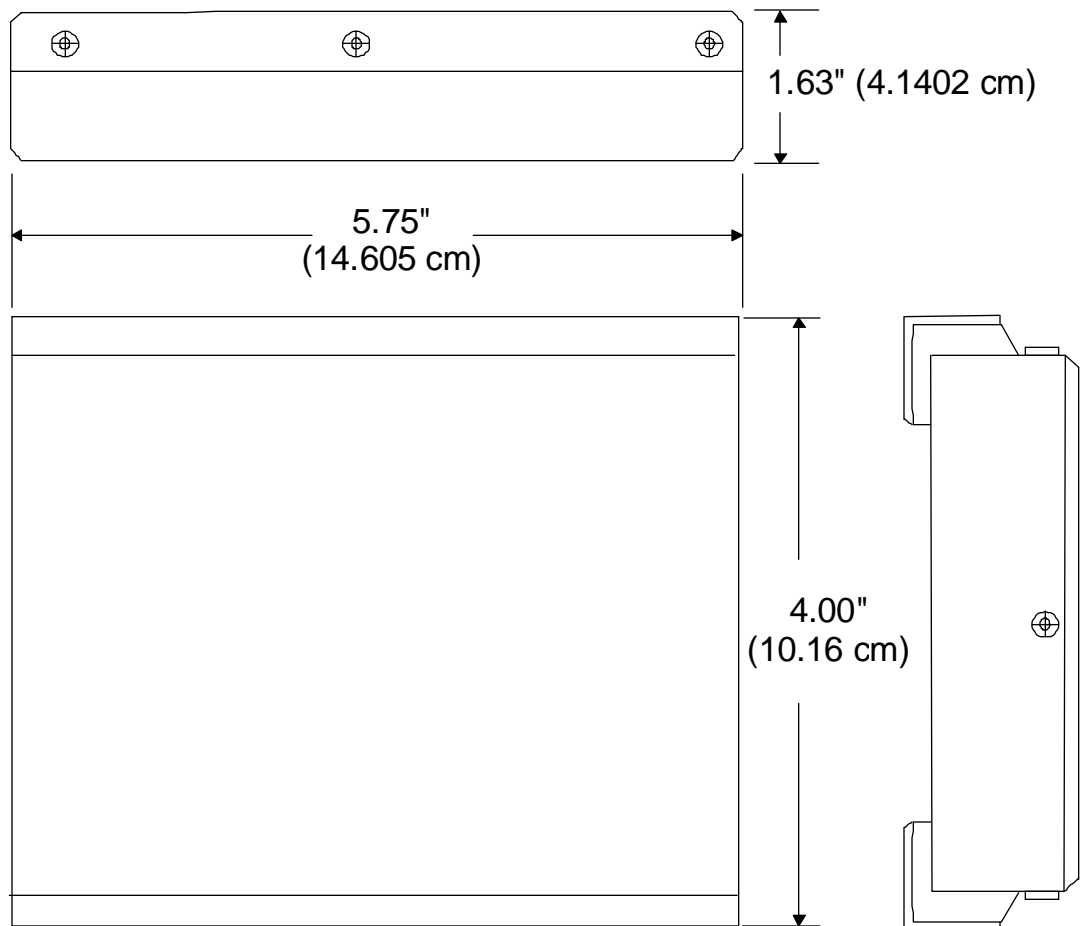

Figure 1. SCSI-SSI Dimensions
4.00"W x 1.63"H x 5.75"D see Figure 1
The SCSI Fixed Drive complies with the standard 3.5" half height disk drive form factor (Figure 1), and can be mounted in any orientation using the #6-32 mounting holes along the bottom and side of the unit.